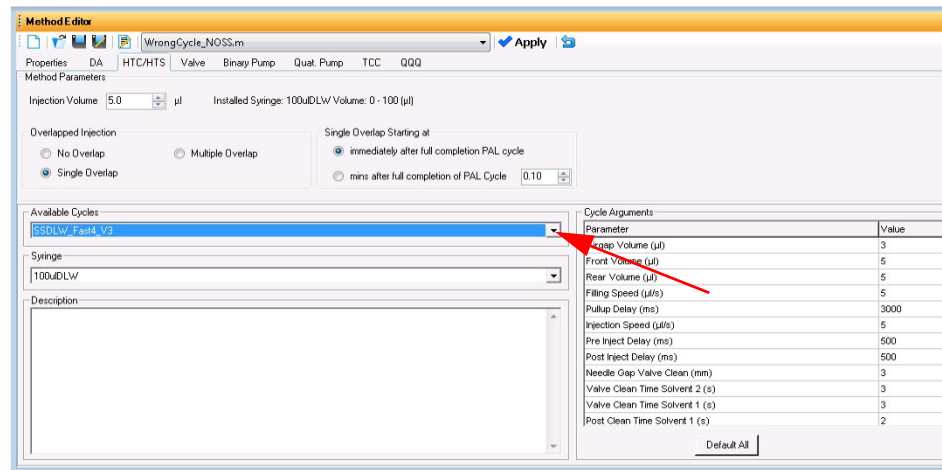

Figure 2. HTC/HTS tab to set cycle parameters
- a For HTC/HTS autosampler, on the **HTS/HTC** tab in the **Method Editor** window, select a cycle from the **Available Cycles** list. See **Figure 2**.